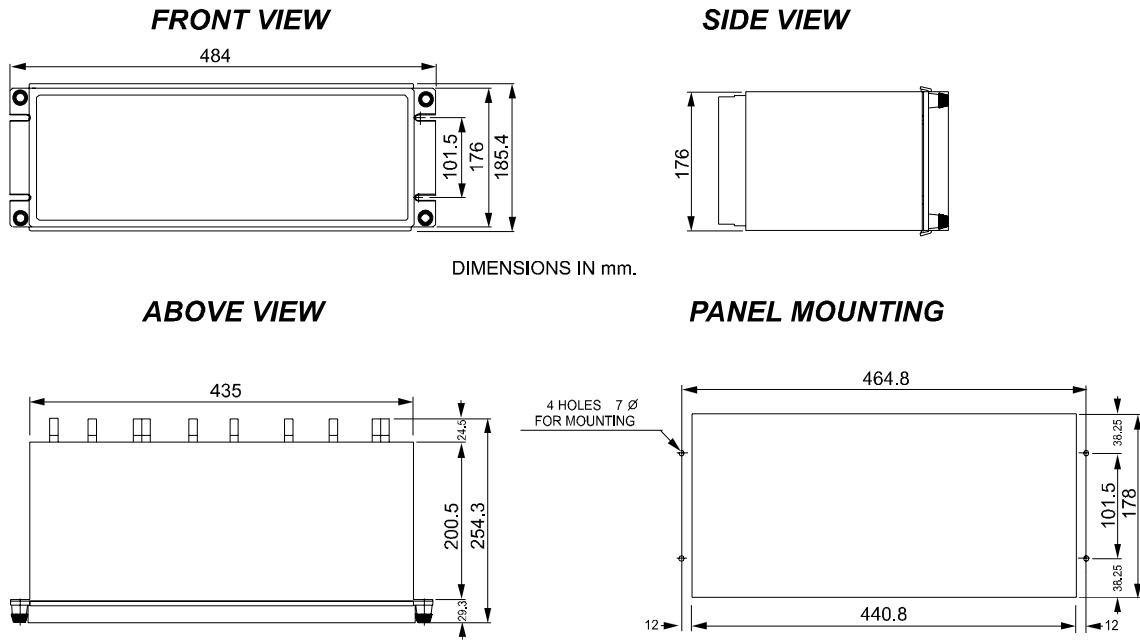

FIGURE 8: DIMENSIONS AND DRILLING FOR RDB86A3A
- Figure 8:** Dimensions and drilling for RDB86A3A